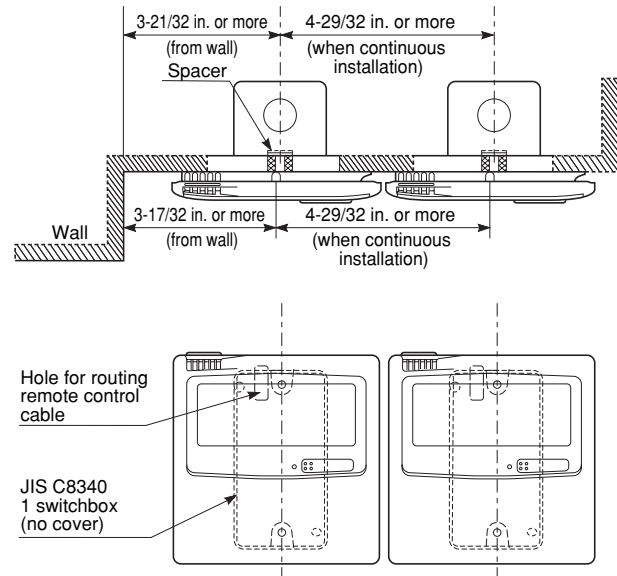

Fig. 6-1
- When mounting the remote controller on a wall, refer to Figs. 6-1 and 6-2.